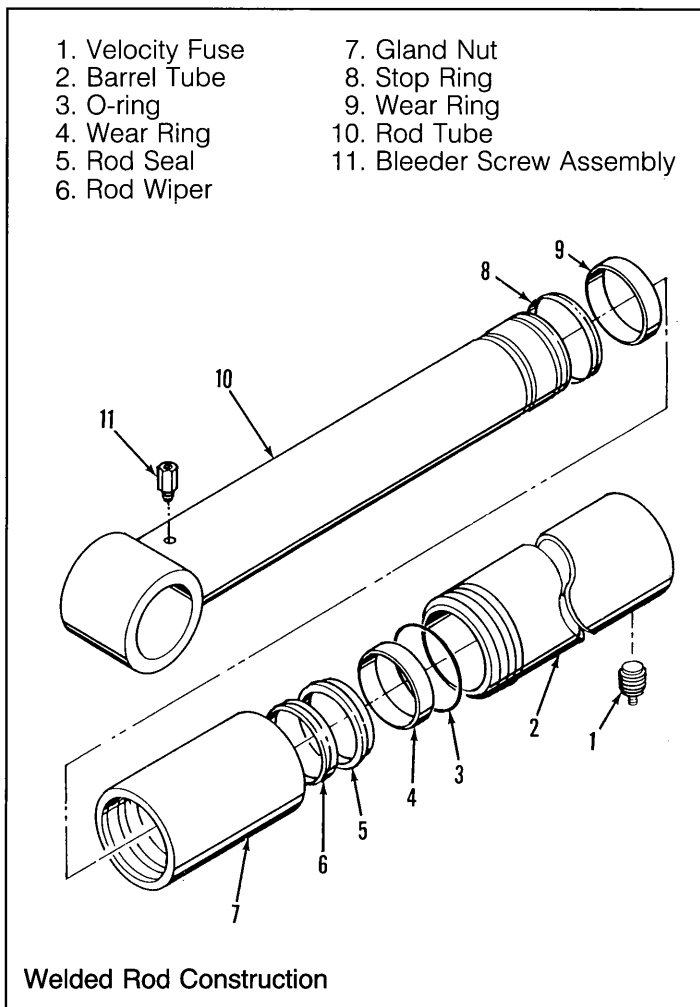

Figure 5-15. Lift Cylinder Disassembly
- (1) Block sissors linkage as per paragraph 5-5.
- (2) Remove snap rings from cylinder pin.
- (3) Remove cylinder pin and spacers from cylinder and plates.
- (4) Provide a suitable container to catch the draining hydraulic fluid, then disconnect the hydraulic hose and fitting from the base of the cylinder. Immediately plug hose to prevent foreign material from entering.
- (5) Attach a suitable hoisting device and sling to the top of the cylinder.
- (6) Lift cylinder from collar.
- (7) Move cylinder to a prepared work area.
b. Disassembly, For Welded Rod Construction (Figure 5-15).
- (1) Unscrew gland nut and withdraw the rod tube from the barrel tube.
- (2) Remove the stop ring and wear ring from the rod tube.
- (3) Remove the gland nut from the rod tube.
- (4) Remove the bleeder screw assembly.
(5) Remove the O-ring, wear ring, rod seal, and rod wiper from the gland nut and discard.
(6) Remove the velocity fuse from the barrel tube.
c. **Cleaning and Inspection** (Figure 5-15).
- (1) Clean all the metal parts in cleaning solvent and blow dry with filtered compressed air.
- (2) Check the mating surfaces of the mount tube, barrel; tube and rod tube for excessive wear or scoring.
- (3) Replace all parts found unserviceable.
- (4) Replace all seals and O-rings.
d. **Reassembly, For Welded Rod Construction** (Figure 5-15).
- (1) Lubricate and install the rod seal, wear ring, rod wiper and O-ring in the gland nut.
- (5) Operate the hydraulic lift circuit with the bleeder screw (Figure 5-15) loose to allow trapped air to escape the lift cylinder. Once hydraulic fluid flows continuously from bleed port, tighten the bleeder screw. Check for leaks.
- (6) Test with weight at the rated platform load to check system operation.